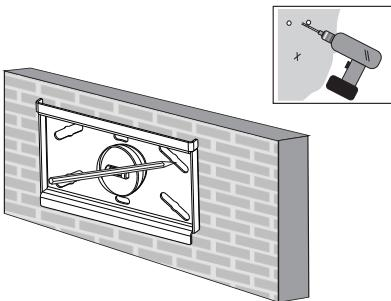
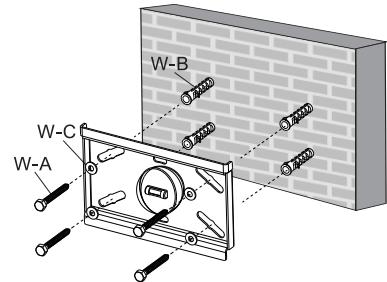

fig. 1.3
fig. 1.4
- 1 Use the Wall Plate as a template to mark 4 holes locations on the wall. Two in the top row and two more in the bottom row, as shown in fig.1.3. Pre-drill these holes with a 10mm masonry bit to at least 60mm in depth. Insert a Concrete Anchor (W-B) into each of these holes. Attach the Wall Plate to the wall using 4 Lag Bolts (W-A) and 4 M6 Washers (W-C), as in fig.1.4. For making sure the wall plate is level, don't tighten the screws at once. According to the bubble level, we can adjust the wall plate slightly. When the wall plate is level, then tighten all the screws, as shown in fig.1.5.